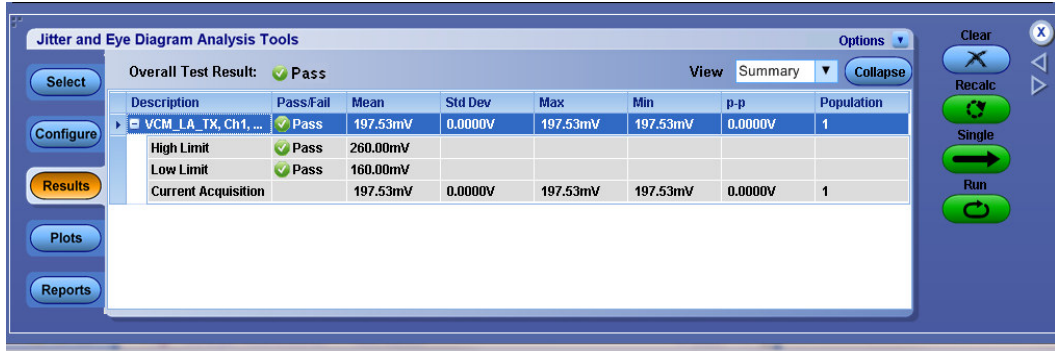
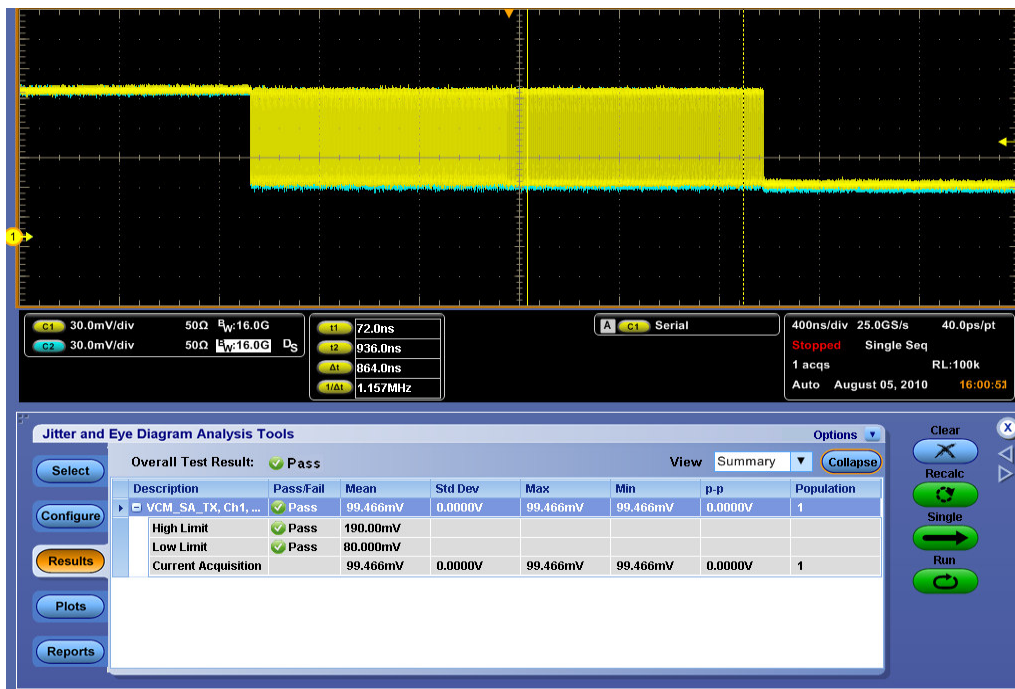

Figure 9: LA Common Mode Output Voltage
Figure 10: LA Common Mode Output Voltage
3. Click on **Single Run** and verify the result as shown below in Figure 9 and Figure 10.
- Click on **Single Run** and Verify the result as shown below in the Figure 10.